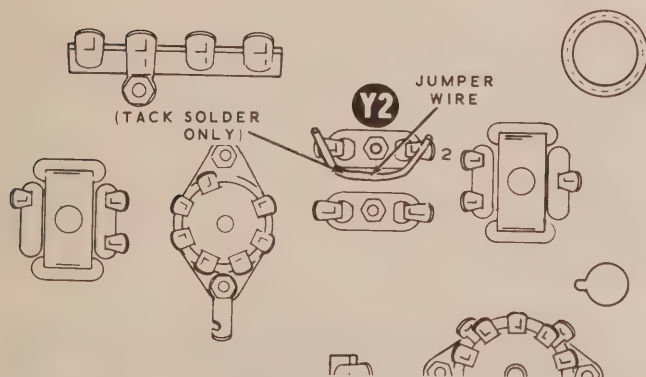

Figure 6
- ( ) Refer to Figure 6, and connect a short jumper wire between lugs 1 and 2 of crystal socket Y2.